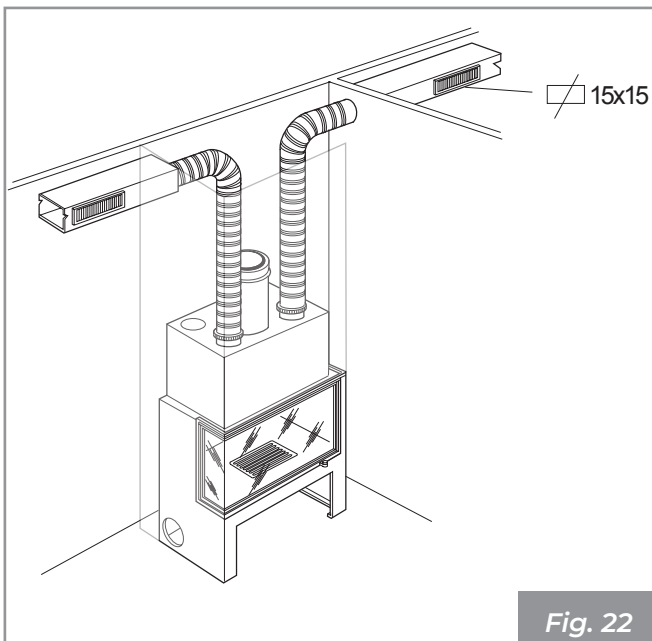

Fig. 22
- Flexible aluminium hose - length up to 6 m on a single duct (Fig. 22);
- Smooth metal pipe - length up to 10 m on a single duct (Fig. 22);